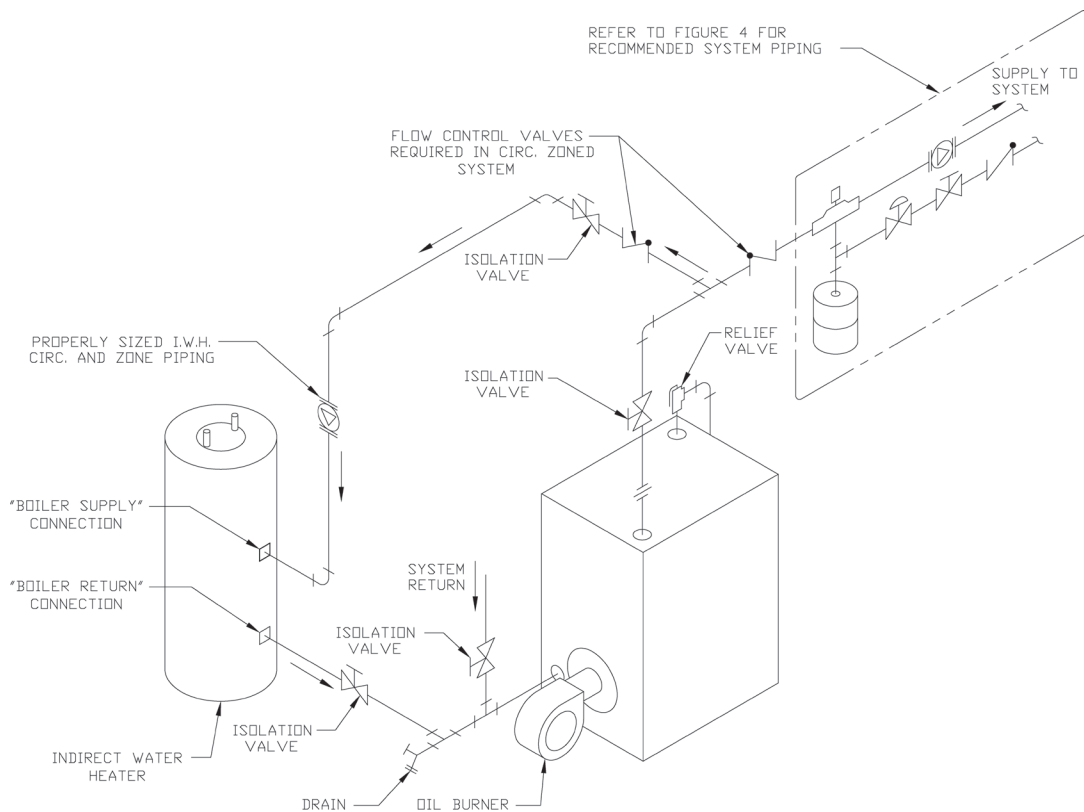

Figure 22: Indirect Water Heater Piping on CL Series Water Boiler
1. CL SERIES WATER BOILER - Figure 22 shows indirect water heater piping on typical hot water heating system. Boiler piping is the same as for any two-zone system. Figure 22 shows circulator zoning, which is usually preferred for indirect water heaters. Size the circulator and indirect water heater piping to obtain the boiler water flow through the indirect water heater called for by the indirect water heater manufacturer. Refer to the indirect water heater instruction manual for additional details.